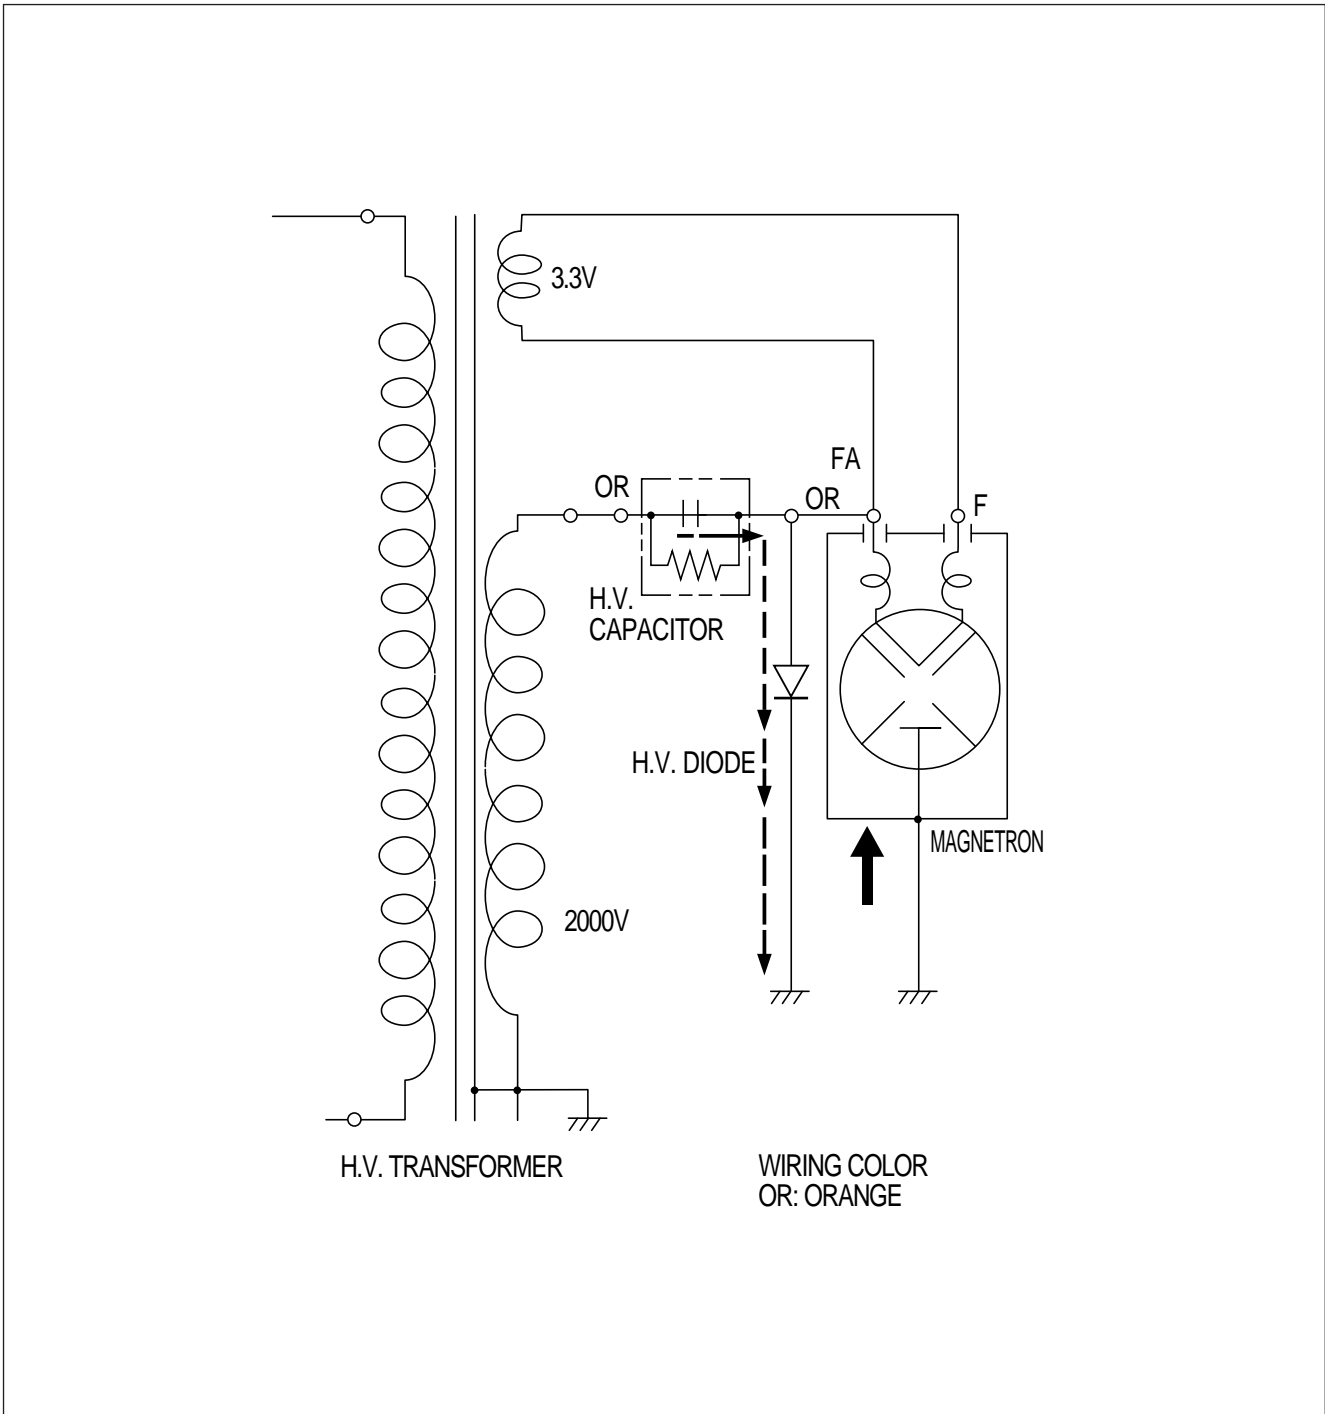

Fig.2
- 6) A high voltage of 2000 Volts AC is generated in the secondary of high voltage transformer and this secondary voltage is increased by the action of the diode and the charging of the high voltage capacitor. This resultant DC voltage is then applied to the anode of the magnetron. As shown in Fig. 2 the first half cycle of the high voltage produced in the high voltage transformer secondary charges the high voltage capacitor. Current flow is in the direction of the dotted-line during the second half cycle, the voltage produced by the transformer secondary, and the charge of the high voltage capacitor are combined and applied to the magnetron as shown by the solid line so that oscillations begin. The disturbance wave generated by the magnetron is prevented by the choke coils of 3.2 μ H, filter capacitors of 16 μ F and the magnetron's shielded case so that TV and radio programs are not impaired by noise.